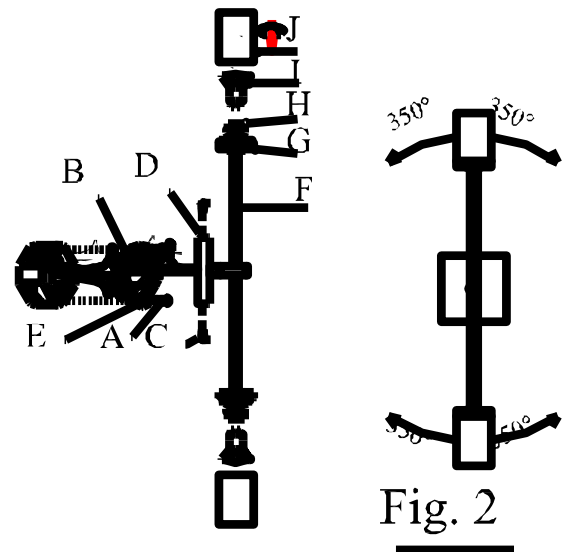

Fig. 2
**STEP2:** Put the back plate (D) over the universal mounting plate (B) and secure it to universal mounting plate rib (E) with mounting screw (C).
**STEP3:** Install bulb (I) to socket (H) (Do not exceed the maximum capacity recommended on the socket.)
**STEP4:** Thread metal shade (J) to fitter (G) tightly
**STEP5:** The arm (F) could be spin to the angle desired. (Note: Max. 350° .(See Fig. 2)